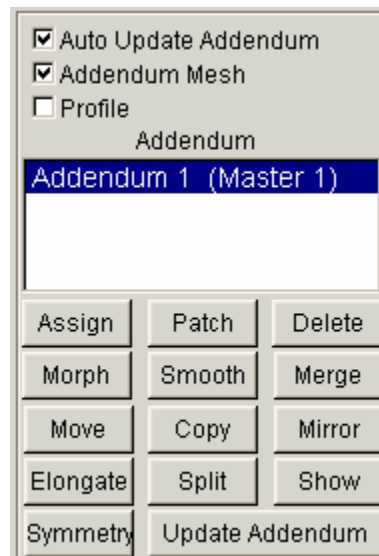
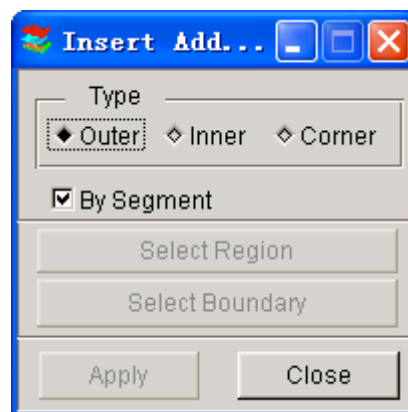
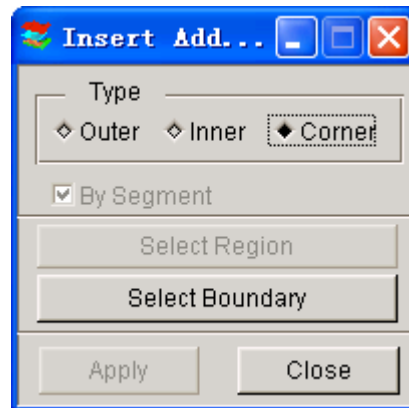

Figure 6.3.12 Create and Edit Addendum
Figure 6.3.13 Insert Addendum
Figure 6.3.16 Corner Addendum
This menu provides functions to create addendum from the master profile, edit and modify the addendum, etc. The available functions in the ADDENDUM menu are shown in Figure 6.3.12.
After the user selects a Master profile and clicks the **ASSIGN** button as in Figure 6.3.12, DYNAFORM opens a dialog window (Figure 6.3.13).
1. When the **CORNER** option is selected, the dialog window in Figure 6.3.13 will change to Figure 6.3.16.
This function enables the user to delete the selected addendum. The user selects an addendum from the ADDENDUM LIST window and clicks the **DELETE** button in as shown in Figure 6.3.12. The program will highlight the selected addendum and display a dialog window as shown in Figure 6.3.23 to prompt the user to confirm the deletion of the addendum.